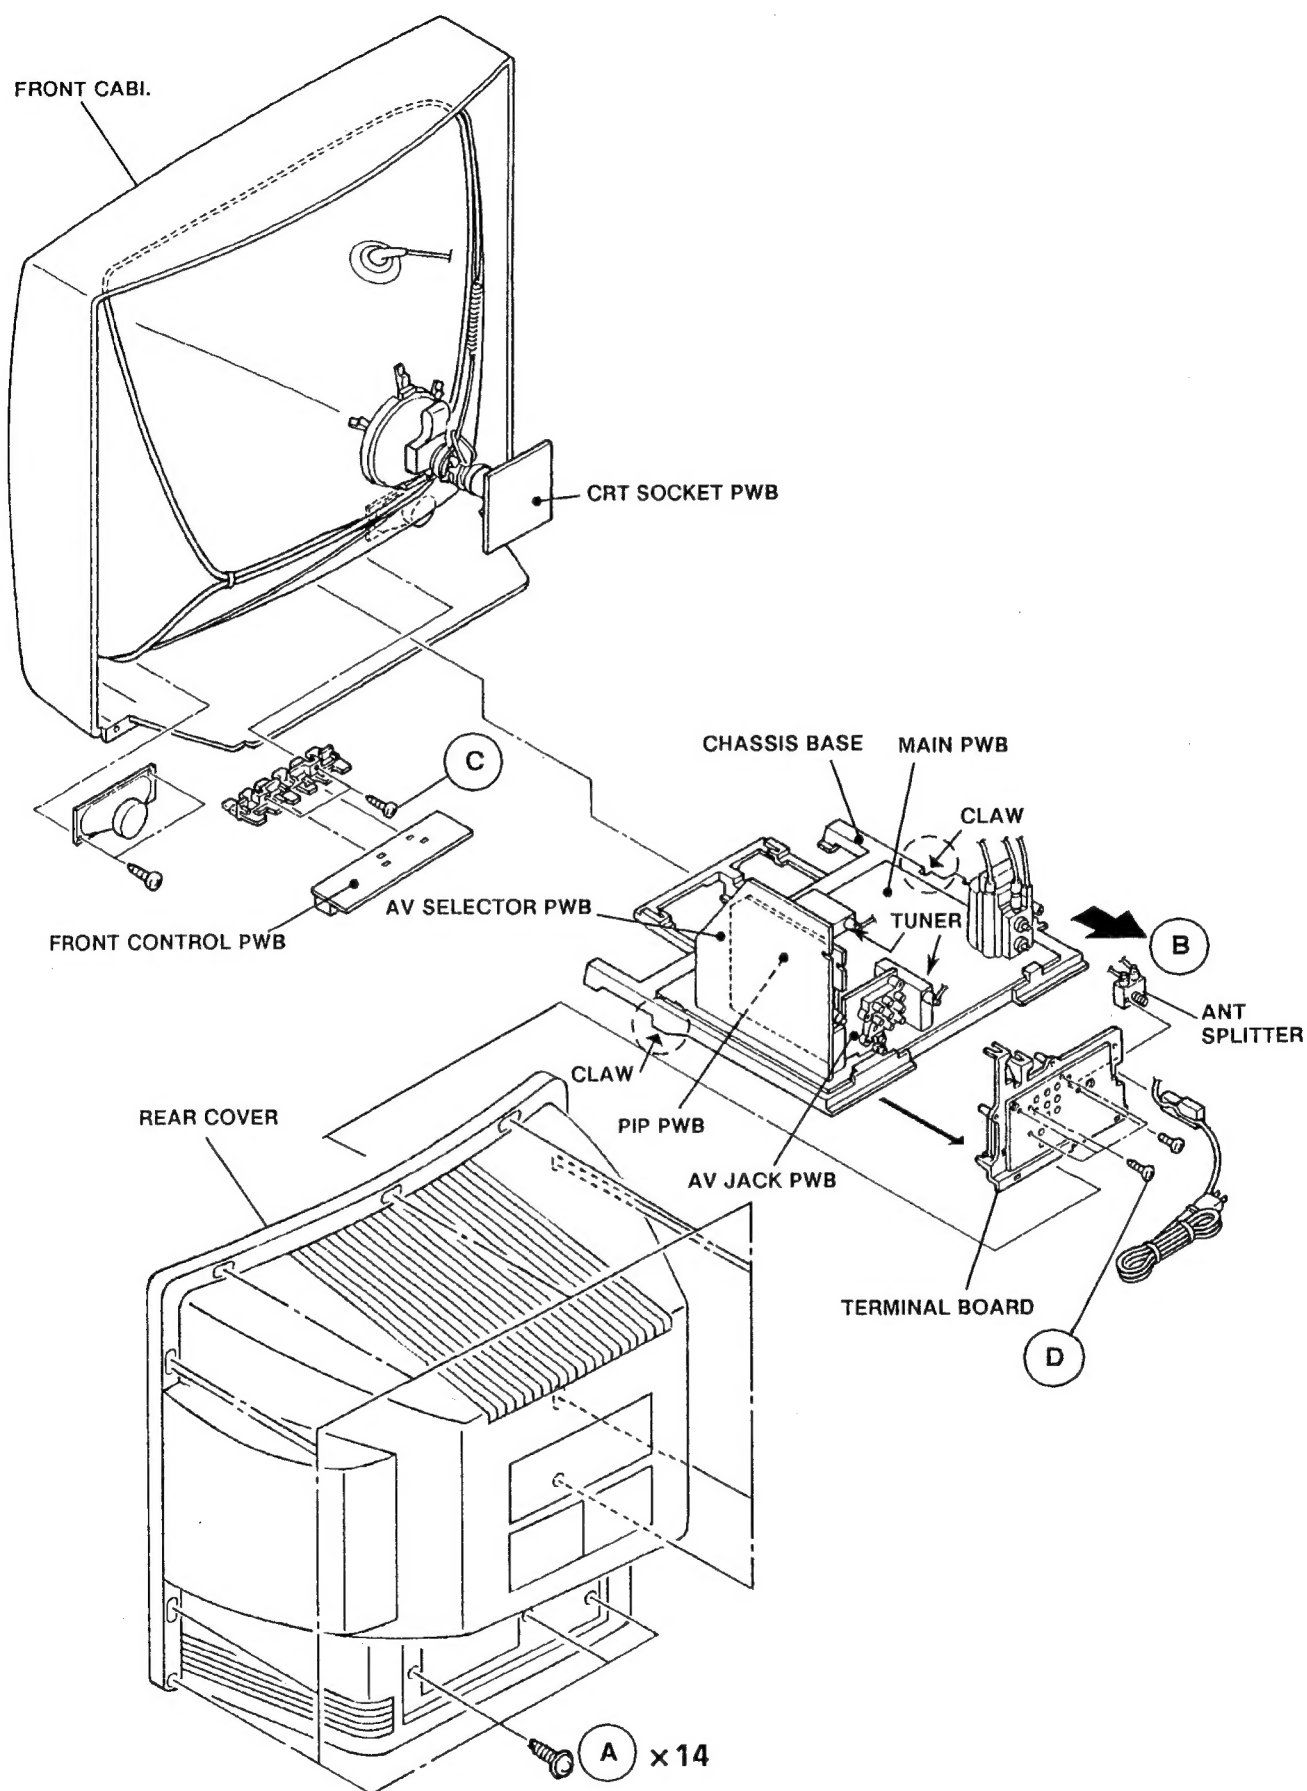

Fig. 2
2. Remove the 14 screws marked (A) as shown in Fig. 2.
2. Draw the chassis backward along the rail in the arrow direction marked (B) as shown in the Fig. 2.
1. Remove the 2 screws marked (C) as shown in Fig. 2.
1. Remove the 4 screws marked (D) as shown in Fig. 2.
(1) Power off Switch off the power and disconnect the power cord from the outlet.
(2) Replace the memory IC. Initial value must be entered into the new IC.
(3) Power on Connect the power cord to the outlet and switch on the power.
(4) System constant check and setting <ol style="list-style-type: none"> 1) Simultaneously press the DISPLAY key and VIDEO STATUS key of the remote control unit. 2) The SERVICE MENU screen of Fig. 1 is displayed. 3) While the SERVICE MENU is displayed, again simultaneously press the DISPLAY and VIDEO STATUS keys to display the Fig. 2 SYSTEM CONSTANT screen. 4) Refer to the SYSTEM CONSTANT table and check the setting items. Where these differ, select the setting item with the MENU UP / DOWN key and adjust the setting with the MENU LEFT / RIGHT keys. (The letters of the selected item are displayed in yellow.) 5) After adjusting, release the MENU LEFT / RIGHT key to store the setting value. 6) Press the EXIT key twice to return the normal screen. 	 <p>Fig. 1</p>
(5) Receive channel setting Refer to the OPERATING INSTRUCTIONS (USER'S GUIDE) and set the receive channels (Channels Preset) as described.